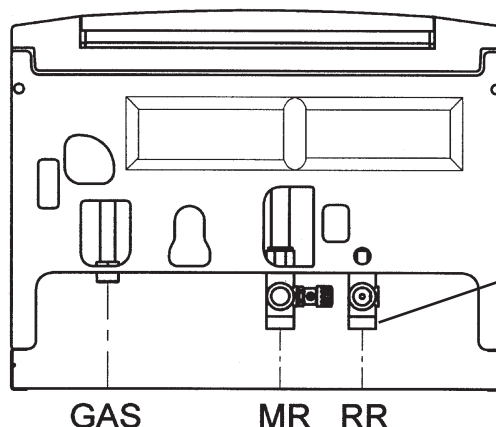

Fig. 17
4.5 CONNECT THE PIPEWORK - Fig17
4.5 CONNEXIONS AU RÉSEAU - Fig. 17